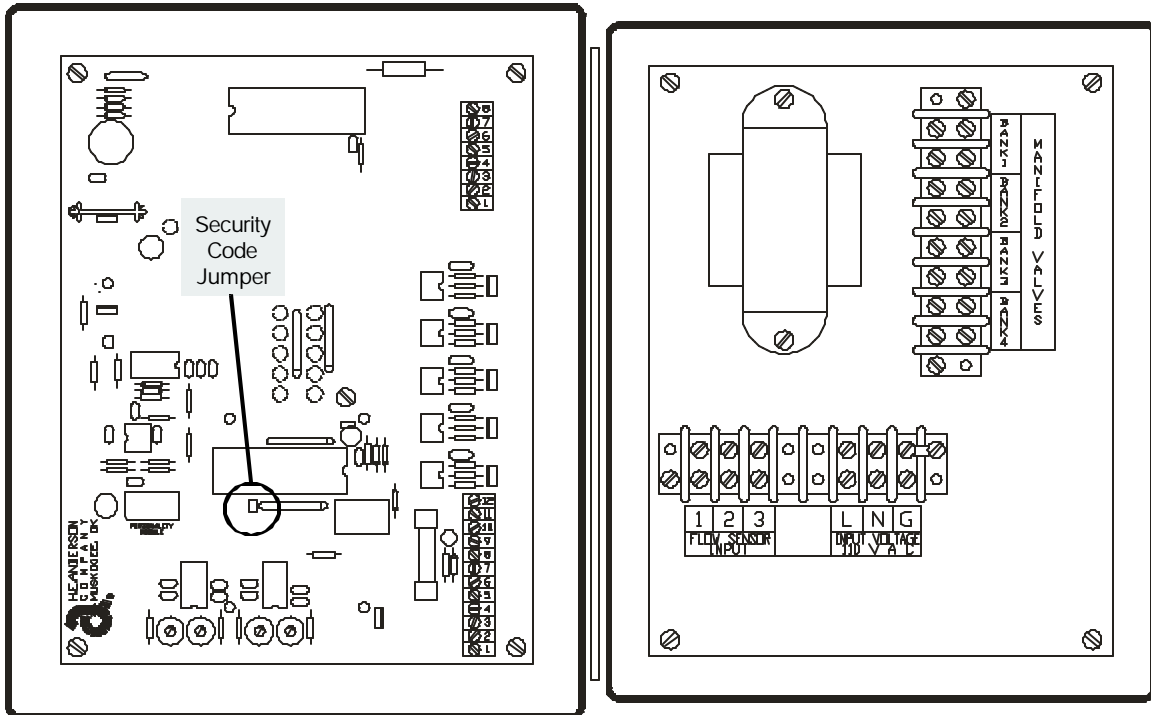

Figure C-1
- (1) open up the unit.
- (2) Refer to Figure C-1, above, to locate the security code jumper pins just below the micro processor. There you should find two pins with a small jumper clip attached to one pin.
- (3) Remove the jumper clip and replace it so that it connects both jumper pins to gether.